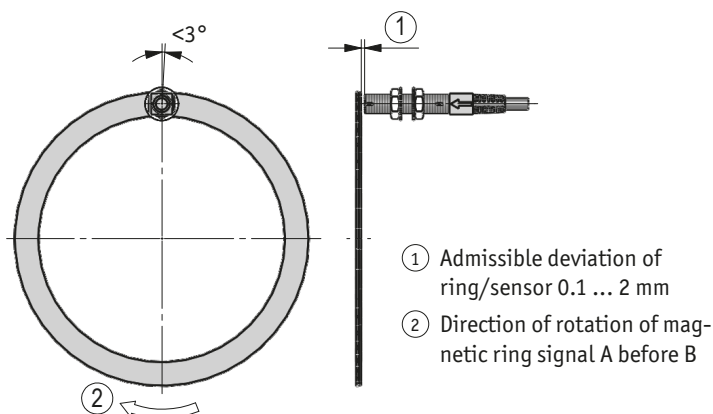

Fig. 11: Definition of the counting direction with magnetic ring and assemblage sensor/magnetic ring, gap measure, tolerances
- The distance tolerances were not observed over the whole measuring length (see Fig. 6, Fig. 8 ... Fig. 11).
- Magnetic sensor has not been aligned according to Fig. 6, Fig. 8 ... Fig. 11.